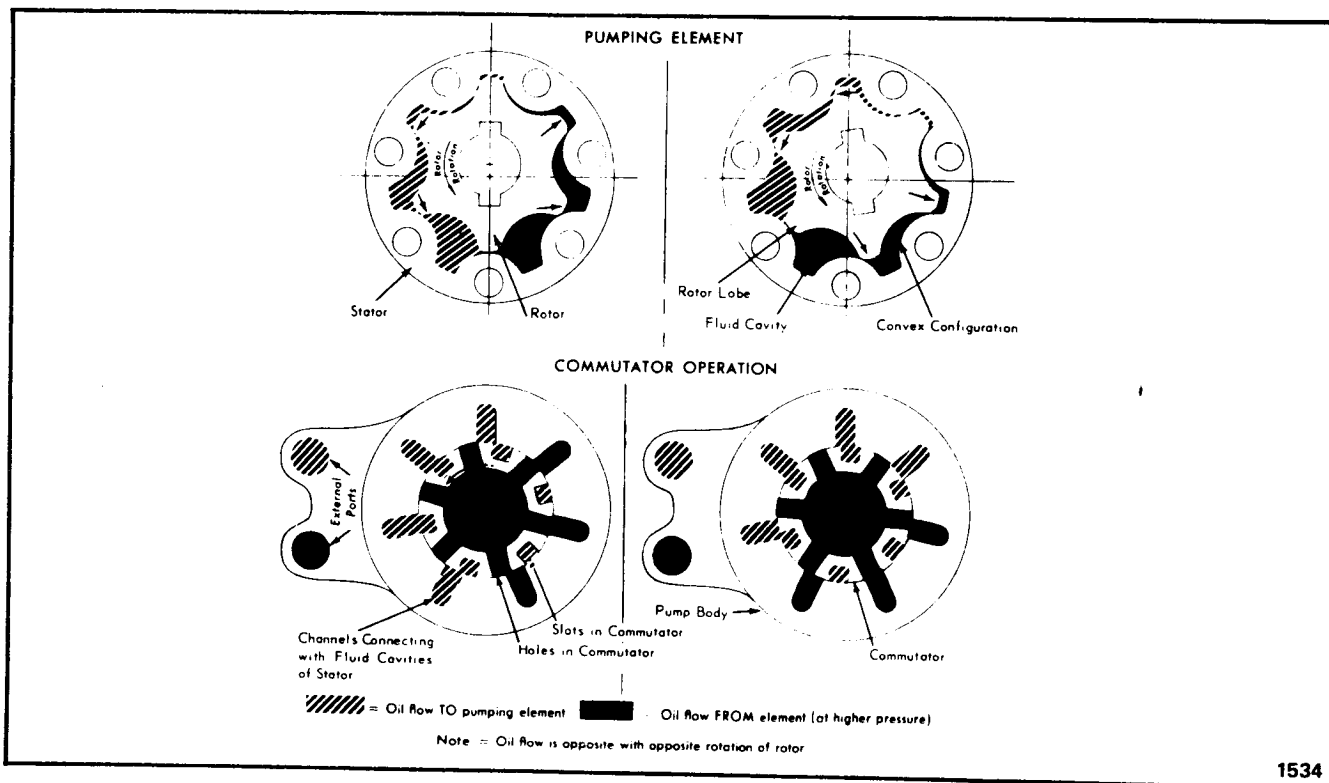

Fig. 2—Rotor Operation and Coincidental Rotation of Commutator
The rotor (13) has six lobes designed in a form similar to that of the stator (12) chambers. The rotor is designed so that each lobe has a diametrically opposite lobe; therefore, when one rotor lobe is in a cavity of the stator (12) its opposite lobe is at the crest of the stator's convex form opposite the cavity. As the rotor (13) is rotated, each lobe in sequence is moved out of its cavity to the crest of the stator's convex form, forcing each opposite lobe in sequence into a stator (12) cavity. See Fig. 2 for an illustration of rotor operation and for commutator rotation later in this section.
The commutator (9) design incorporates six holes and six slots alternately and equally spaced around its outer diameter. See Fig. 2 "Commutator Operation". The commutator hole locations are such that they coincide with the axial locations of the seven holes in the pump body bore. The holes in the pump body are, as mentioned in the above paragraph, aligned with the seven holes in the stator (12). The six holes of the commutator (9) lead through the commutator walls to the inner center space in the commutator. The inner center space is connected to the upper circular channel of the pump body and its connecting external port.
The rotor drive link (11) sometimes called the toggle bar, links the rotor to the coupling or input shaft (2). The steering wheel is attached to the coupling or input shaft (2) by a rigid shaft attached to the steering wheel at one end and driving the coupling or input shaft (2) through a universal joint arrangement. Manual effort is applied through the steering wheel to the rotor (13). This effort produces the pressure differential in the line to the control valve. This pressure differential actuates the valve spool that, when actuated, directs high pressure oil from the power pump to the manual pump. The high pressure oil from the power pump enters the external intake port of the manual pump. This oil flows through the commutator holes to the intaking fluid cavities in the stator (12). See Fig. 2. This action and oil flow pattern continues as long as the manual effort is applied to the steering wheel. As soon as manual effort ceases to be applied, the pressure differential ceases to exist, the valve spool centers, and the oil becomes static, except that which is moving from the power pump into the valve and back directly to the reservoir.